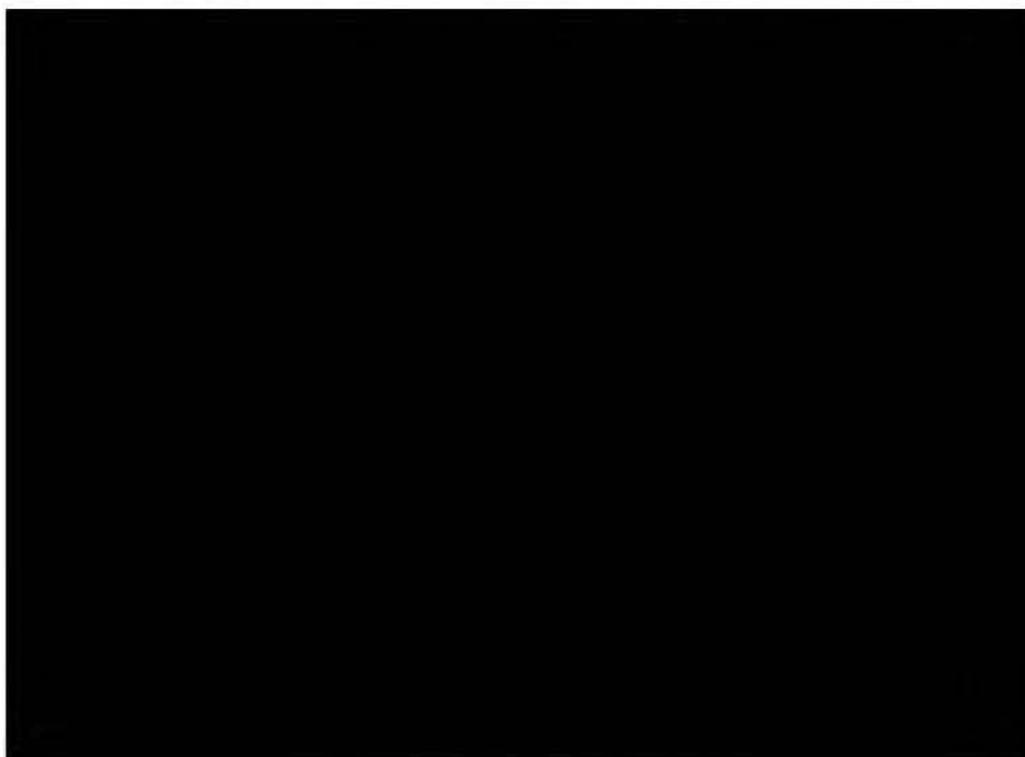

Figure 1 [REDACTED] Interior View.
- 1 Locate red equipment rack [REDACTED] (2, Fig. 1) on [REDACTED] forward interior wall.
- 1 Click Config Setup button in Primary Commands panel (Fig. 1). Config Setup window opens (Fig. 2).